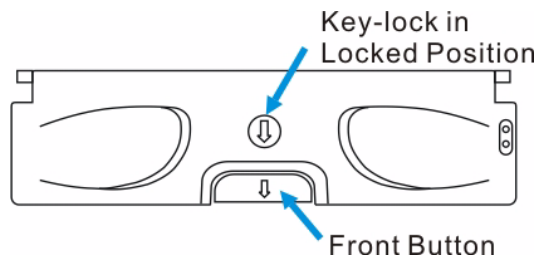

Fig. 6.21 Front View of an Individual Drive Tray
3. Open the front flap by pushing the button at the front of the drive tray. (See *Figure 6.21*) The drive tray front flap will automatically be lifted and the drive tray will be dislodged from the chassis.